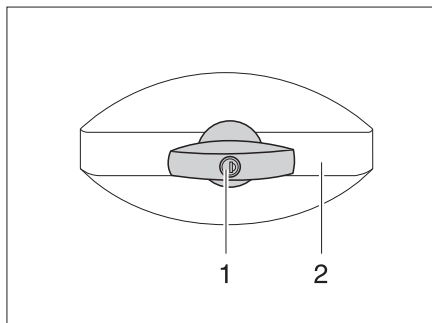

Fig. 31 Flap lock, elliptical, locked
- Insert the key into the locking cylinder (Fig. 31,1) and turn a quarter turn anti-clockwise. Lock handle (Fig. 31,2) is released.